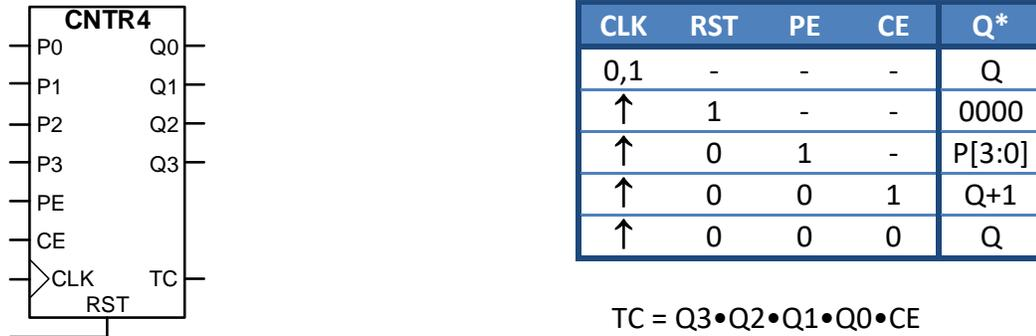

Figure 2 - Block Diagram and Function Table for 4-bit “CNTR4” Counter
3. Complete the `cntr4.v` module by adding 4-bit wide 2-to-1 muxes such that the counter implements the function table shown in Figure 2. You may then use any number of 4-bit counter instantiations in your overall crosswalk design.